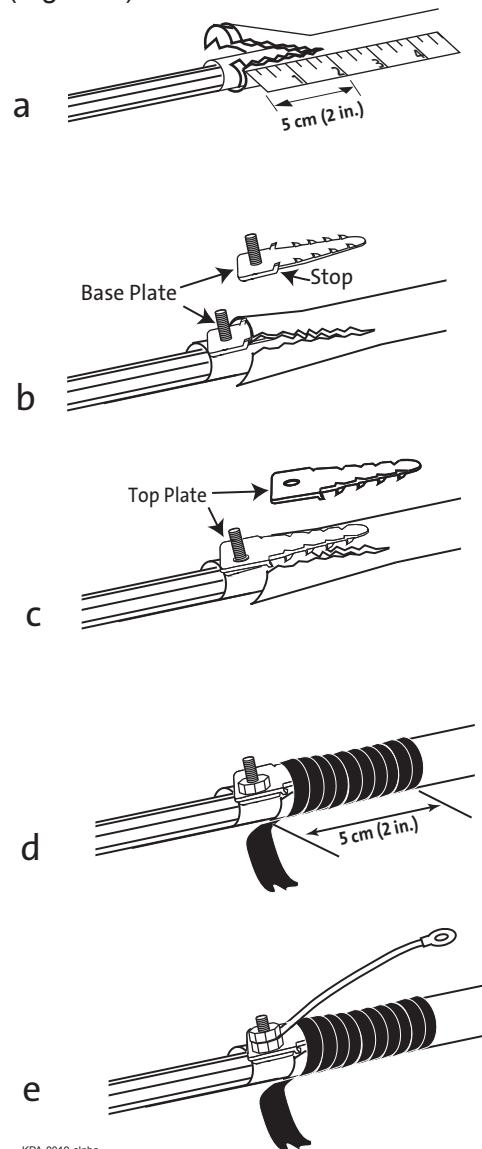

Figure 3
Step 4: If cable is armored, install ground hardware (Figure 3):